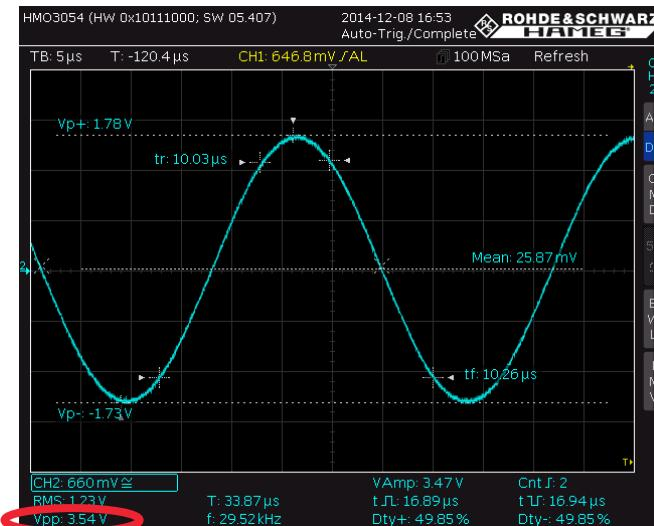

Fig. 2-42: Measured output voltage on the lowpass at the cutoff frequency.
- As described in Section 1.1, the following relationship exists for the output voltage at the cutoff frequency: $u_{out} = \frac{u_{in}}{\sqrt{2}}$. For this example, that calculates out to: $u_{out} = \frac{4.99V}{\sqrt{2}} = 3.528 V$. As seen in Fig. 2-42, the calculated value matches very well with the measured output voltage of 3.54 V.